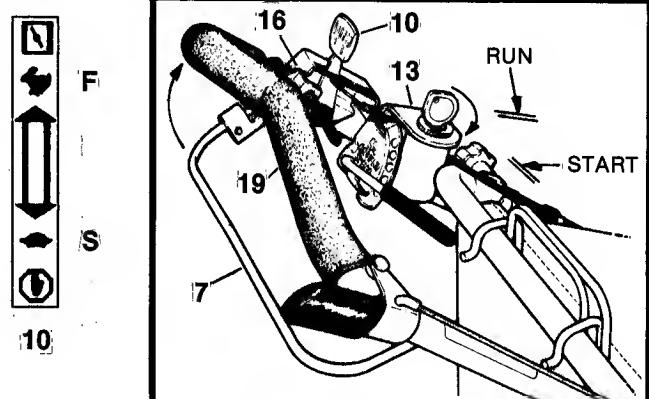

FIG. 4-ELECTRIC START
ELECTRIC START: The KEY/IGNITION switch (13) has two positions - RUN & START. The engine CAN NOT be stopped at the switch! Stopping the engine is accomplished by moving the ENGINE CONTROL to the STOP position. Refer to FIG. 4.
1. Move ENGINE CONTROL lever (10) to START (CHOKE) position.